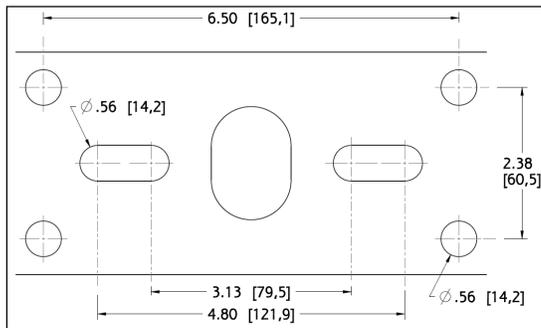

Fig.1a
1. Secure the mounting bracket onto application surface by means of hole pattern on mounting bracket [Fig.1a]